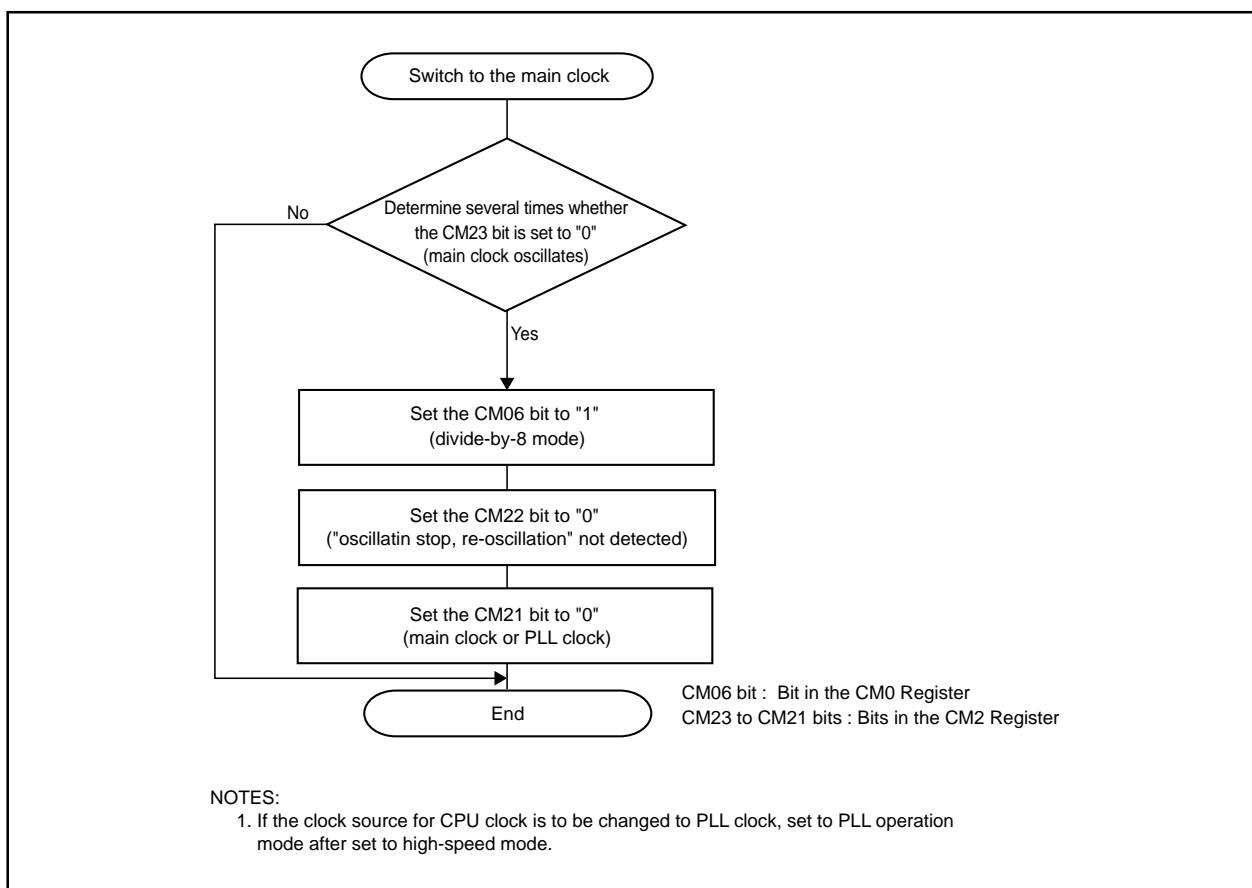

Figure 7.13 Switching Procedure from On-chip Oscillator to Main Clock
- Where the main clock re-oscillated after oscillation stop, return the main clock to the CPU clock and peripheral function clock source in the program. **Figure 7.13** shows the procedure for switching the clock source from the on-chip oscillator to the main clock.